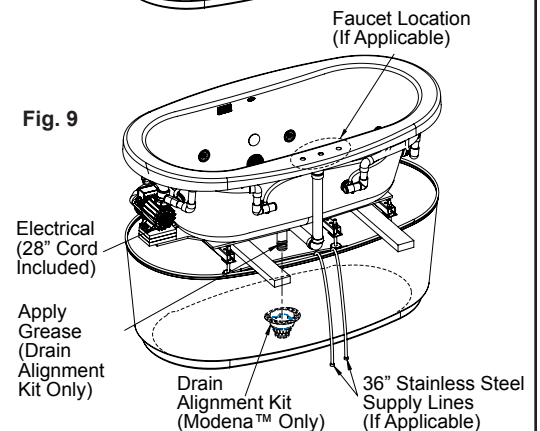

Fig. 9
- 2 Install the overflow drain kit onto the bathtub with the supplied brass tailpiece that is included in the drain alignment kit (Modena™ only). Be sure to apply the supplied grease to the end of the tailpiece where it will connect to the drain alignment kit (Fig. 9).
- 4 Place the bathtub onto the wood supports in the position that it will be lowered into the skirt (Fig. 9). The wood supports need to be positioned under the bathtub away from the foam blocks or adjustable brackets. Orient the bathtub properly with respect to the electrical outlet and the drain. Also, make sure the drain and overflow areas line up with the drain alignment kit.